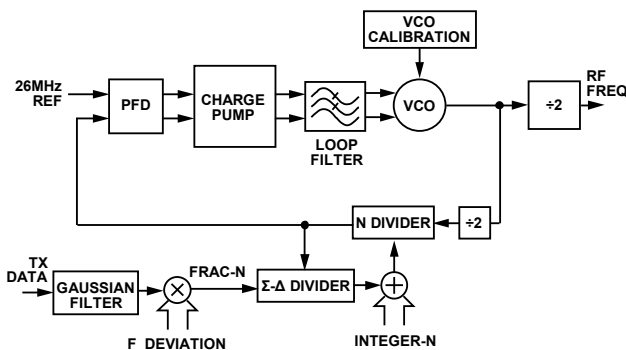

Figure 78. RF Frequency Synthesizer Architecture
A fully integrated RF frequency synthesizer is used to generate both the transmit signal and the receiver's local oscillator (LO) signal. The architecture of the frequency synthesizer is shown in Figure 78.